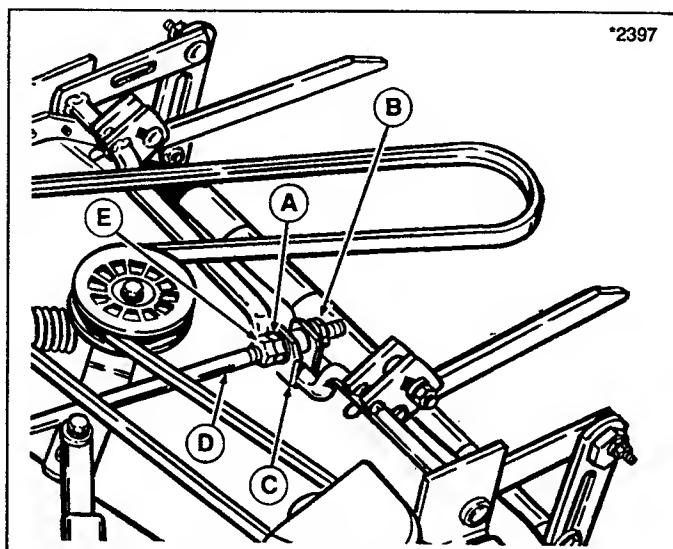

Figure 33. Front-To-Back Levelling
- See figure 33. Loosen jam nut (E). To lower rear of mower deck, loosen nut (B) which will lengthen leveling rod (D). To raise rear of deck, shorten leveling rod (D). When proper measurement is obtained, tighten nut (A) against bracket, then tighten jam nut (E) against nut (A).